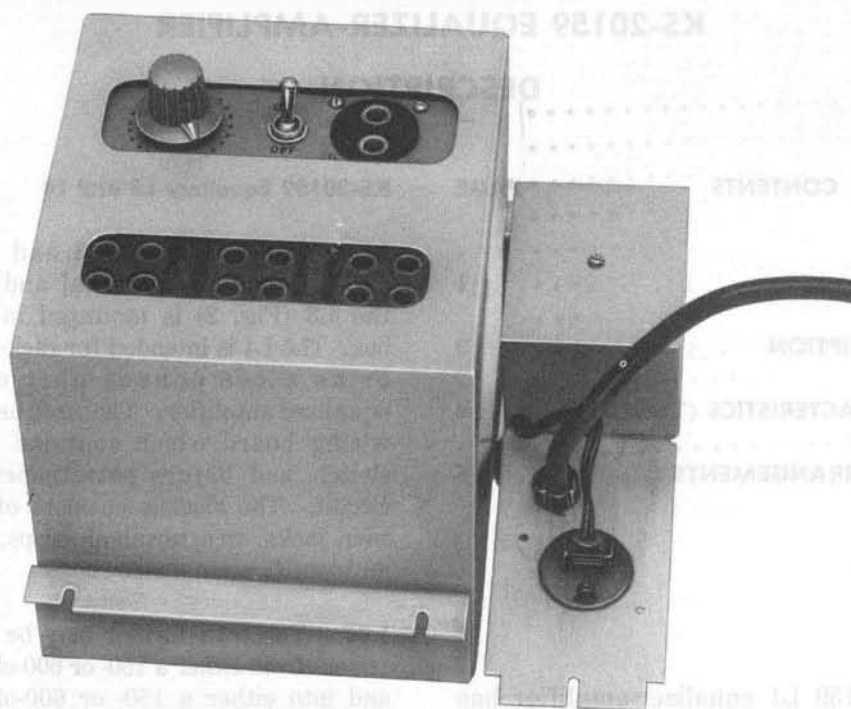

Fig. 1—KS-20159 Equalizer-Amplifier With Cover and L6 Power Supply Assembly
1.01 The KS-20159 L1 equalizer-amplifier has been Manufacture Discontinued and replaced by the KS-20159 L2 equalizer-amplifier. The equalizer-amplifier (Fig. 1) is used to provide equalization and amplification for 5-, 8-, and 15-kHz local program circuits utilizing nonloaded single-gauge or multigauge cables. The equipment is intended primarily as a line equalizer and amplifier for use on studio-to-transmitter loops and temporary pickup loops but may also be used in other high-quality applications. The amplifier is transistorized and operates on 48 Vdc.